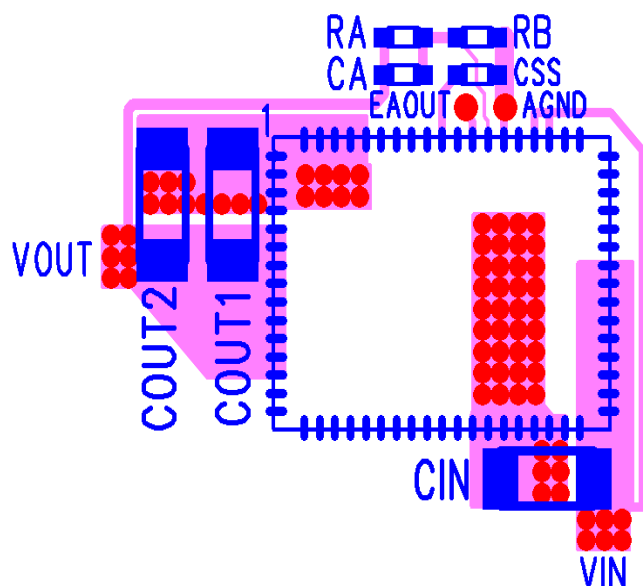

**Figure 6: Example of synchronizing multiple EN5394QIs in a daisy chain with phase delay.**
In all cases, S\_OUT can be delayed with respect to internal switching clock or the clock applied to S\_IN. Multiple EN5394QI devices on a system board may be daisy chained to reduce or eliminate input ripple as well as avoiding beat frequency components. The EN5394QIs can all be phase locked by feeding S\_OUT of one device into S\_IN of the next device in a daisy chain. All the switchers now run at a common frequency. The delay is controlled by the value of a resistor connected between S\_DELAY and AGND pins. The magnitude of this delay as a function of S\_DELAY resistor is shown in the Electrical Characteristics table. See Figures 6 and 7 for an example of using phase delay.
The EN5394 can be synchronized to an external clock source or to another EN5394 in order to eliminate unwanted beat frequencies. Furthermore, two or more synchronized EN5394's can have a programmable phase delay with respect to each other to minimize input voltage ripple and noise. An example of synchronizing three EN5394's with approximately equal phase delay between them is shown in Figures 6 and 7. The lowest allowable value for the S\_DELAY resistor is 10k $\Omega$ .
**Figure 7: Example of a possible way to synchronize and use delays advantageously to minimize input ripple.  $R_1 \sim 39k\Omega$ ,  $R_2 \sim 33k\Omega$ . (Refer to Figure 6 for  $R_1$  and  $R_2$ .)  $R_3$  does not matter in this case.**